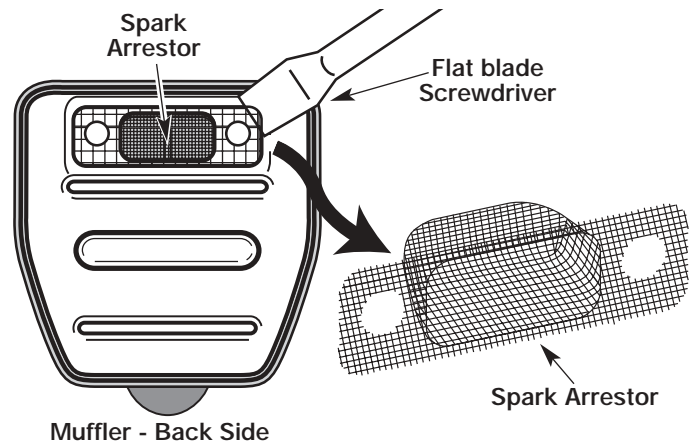

Figure 32
- Using a small flatblade screwdriver, carefully pry up the spark arrestor from the recessed hole. See Figure 32. Remove the spark arrestor from the muffler.
- Clean the spark arrestor with a wire brush. Replace it if it is damaged or if it is impossible to clean thoroughly. See Figure 32.